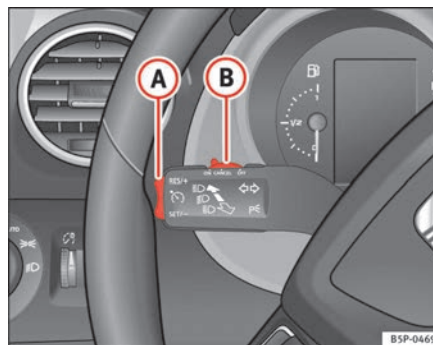

Fig. 150 Indicator and main beam headlight lever: switch and rocker switch for the cruise control
- Press the upper part **RES/+** of the rocker switch ⇒ fig. 150 **A** to increase the speed. The vehicle will continue to accelerate as long as you keep the rocker switch pressed. When you release the switch, the new speed is stored.
Control of the set speed is switched off if you reduce speed by depressing the brake pedal. You can reactivate the control by pressing once on the upper part of the rocker switch **RES/+** ⇒ page 181, fig. 150 **A**.